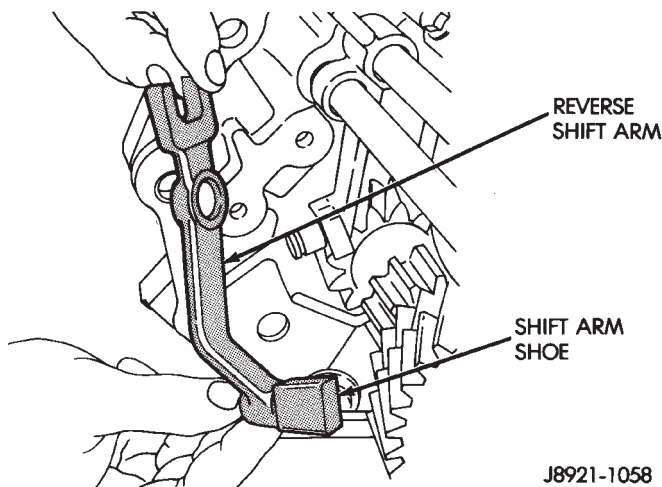

Fig. 28 Reverse Shift Arm And Shoe Removal
(7) Remove reverse shift arm and shoe (Fig. 28).